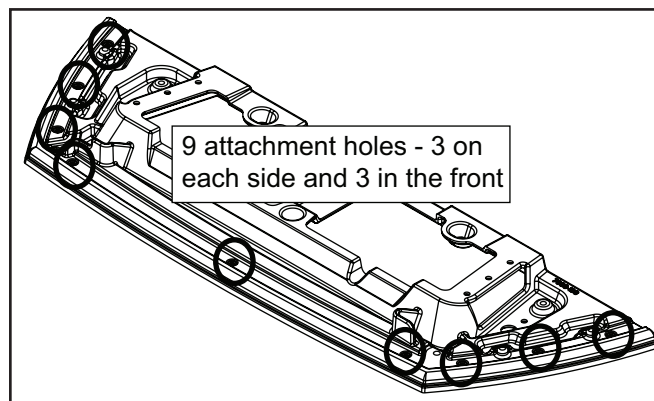

Figure 21.3
8. Open the door and attach the hearth support to the insert. There are 9 attachment holes. **Figure 21.3.**